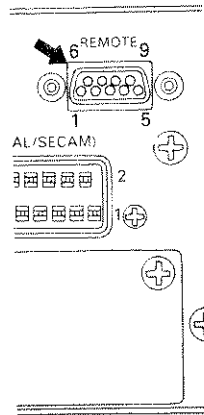

Figure 4.29
4.10 Remote Control (See Figure 4.29, 4.30, Table 4.8, and 4.9)